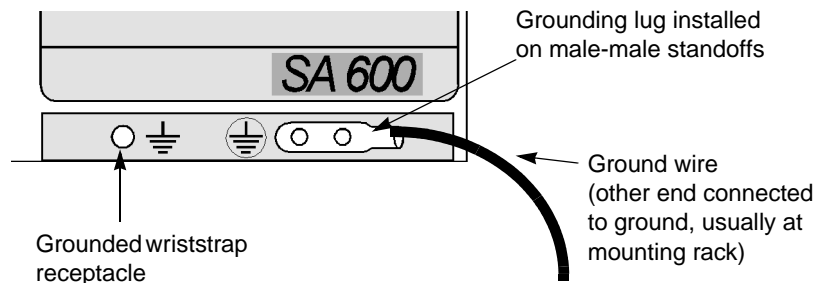

Figure 4-8. SA 600 Grounding Lug
2. Screw the two male-male standoffs into the locations shown in Figure 4-8.
4. Mount the ground lug on the male-male standoffs (as shown in Figure 4-8) and secure using the included washers and lock nuts.